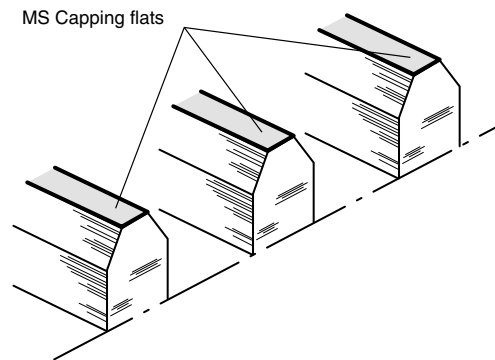

Figure 20
- 7 Apply rubber joining strip to the two opposite square flanges of this plate. The strip should return round each corner to the first bolt hole on adjacent flange. (See fig 20)